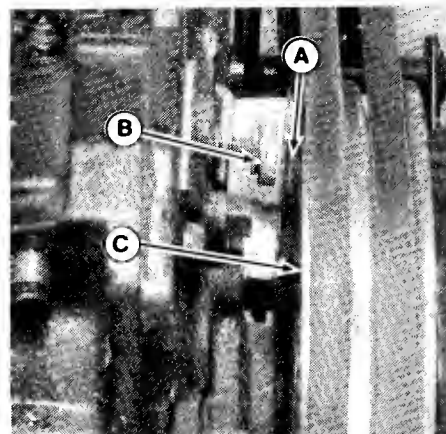

Figure 27. Neutral Adjustment
- c. Place the vehicle motion lever in forward drive position. There should be 1/8 inch (3 mm) clearance between brake pad and drive pulley (figure 27). If not, loosen nut turn brake pad in or out until clearance is reached. Retighten nut.